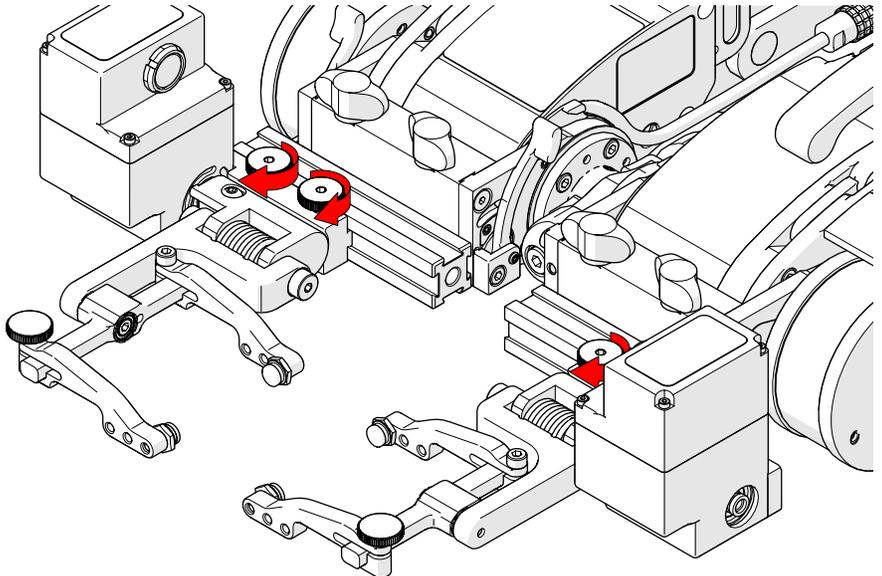

Fig. 30 - Attach actuated probe lifts
11. Tighten the probe holder adjustment knobs (Fig. 30).